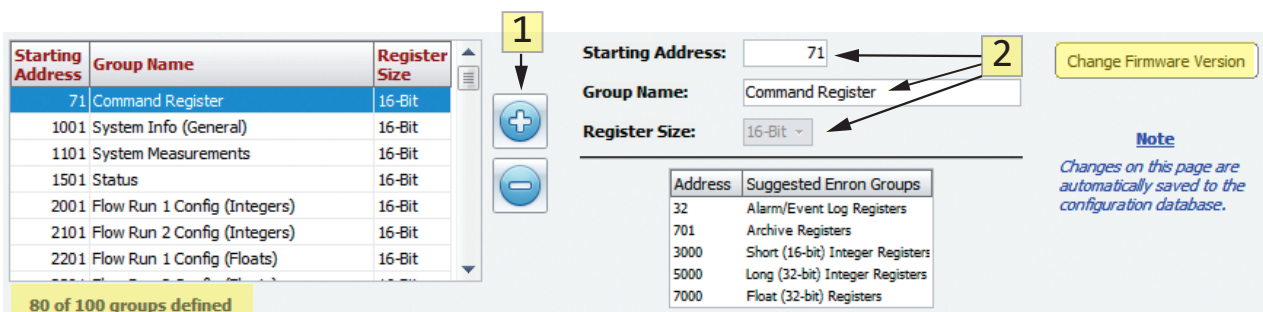

Figure 4.8—Main screen showing steps for creating register groups
1. Click the “+” button to add an unnamed register group to the grid on the left side of the screen (Figure 4.8).